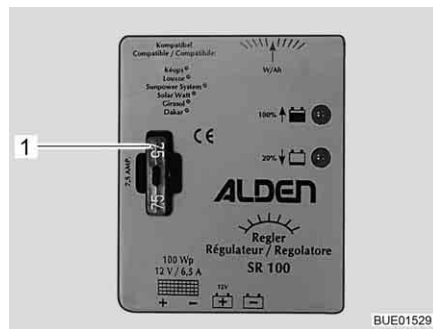

Fig. 146 Solar charge regulator fuse 100 W
- Replace flat fuse 5 A/light brown (Fig. 146,1).